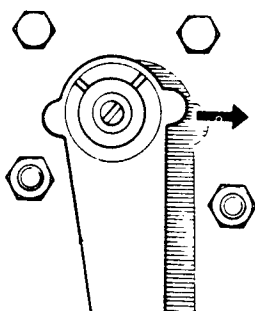

Fig L4.14
- (10) Refer to Fig L4.14. Replace the fixings (3), steering box stiffener bracket to the box.
- (11) Fit the drop arm to the steering box, aligning the mark on the steering rocker arm with the forward mark of the two on the drop arm.